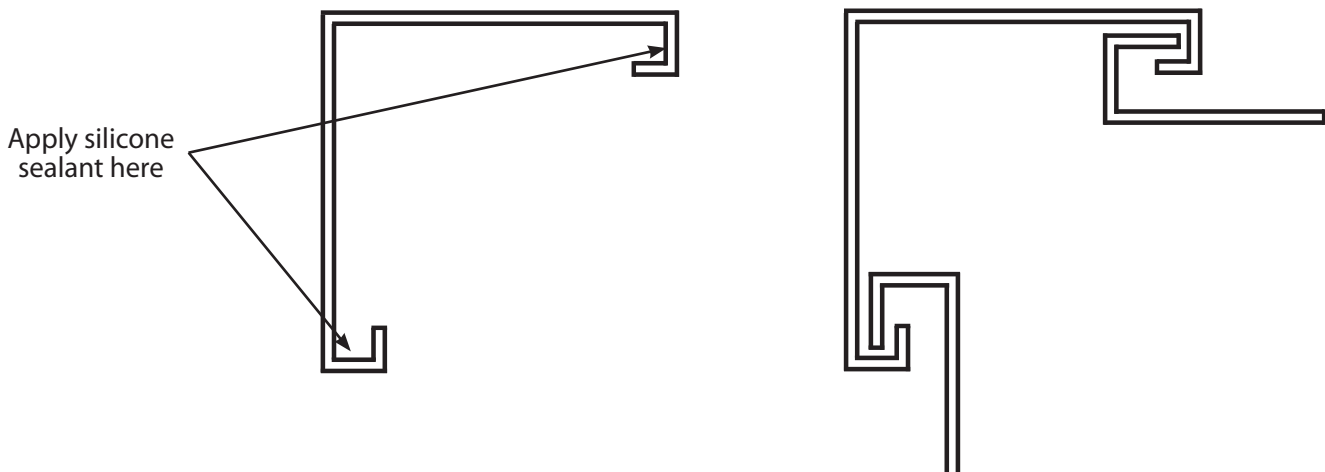

FIGURE 8
- J-Channel locks into each side of the corner posts (**FIG 8**).